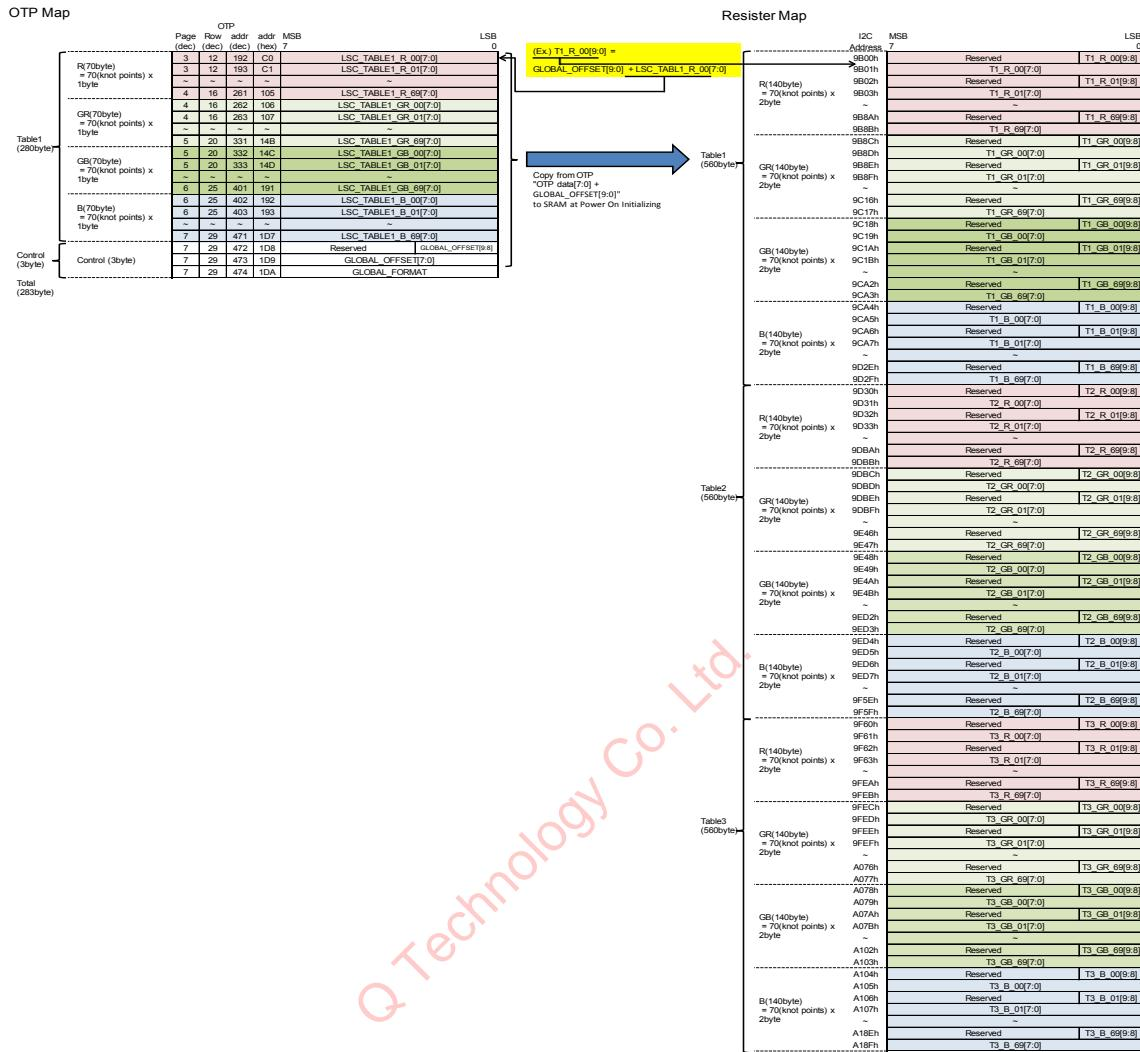

Figure 9-10 Knot table data loaded to sensor SRAM
- 1: Set three color temperature table (Table1, 2, and 3) by ISP during initialization. (See Figure 9-10 for data address for each table)